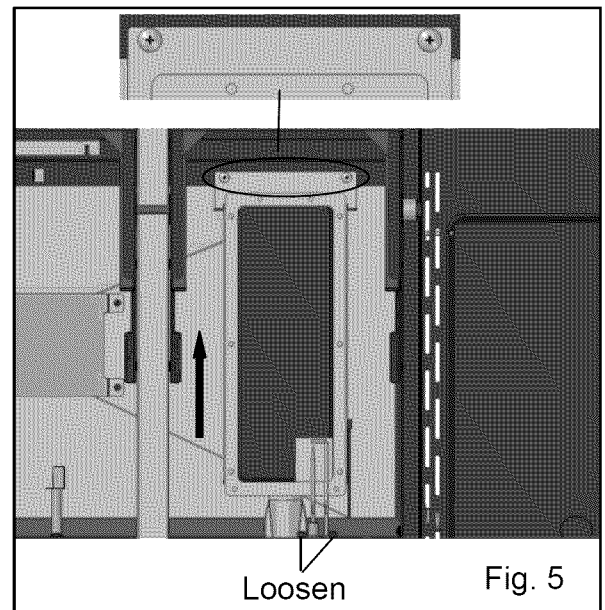

Fig. 5
- Loosen the ignition pin screws at the front of searing burner. Remove screws at the back of searing burner to detach it from bracket. Then lift the burner while sliding it out of firebox. (Fig. 5)